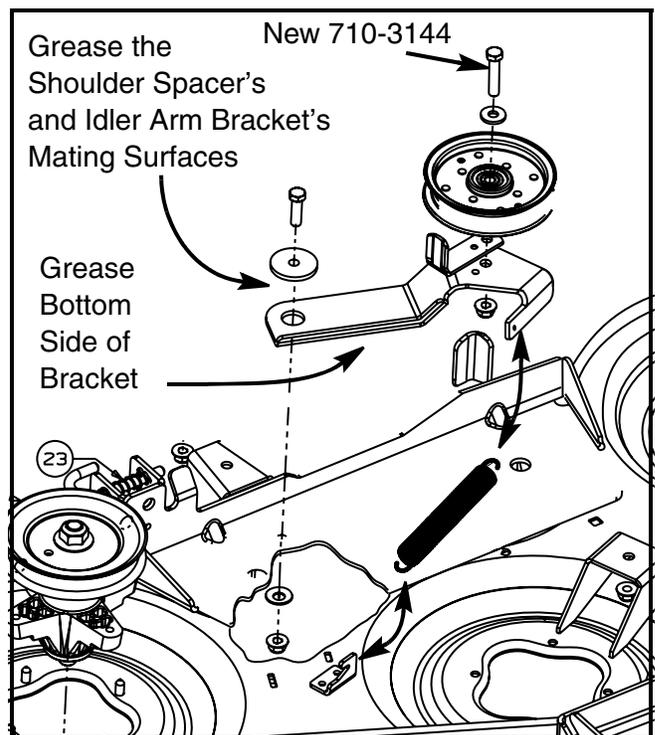

FIGURE 4
23. Install the new idler arm bracket onto the deck using the hardware removed in Step 21. See Figure 4.
26. Re-install the extension spring. See Figure 4.